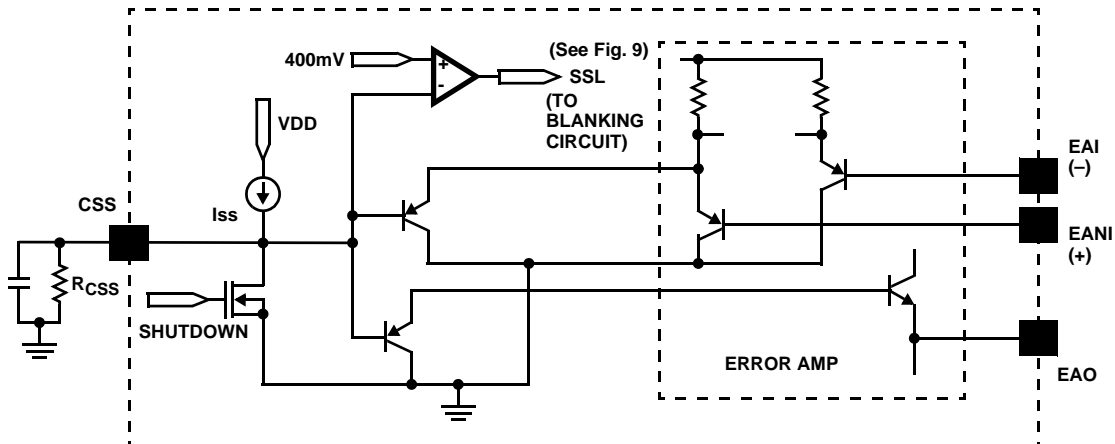

FIGURE 4. SIMPLIFIED CLAMP/SOFTSTART
- Both EANI and EAO are clamped by the voltage (V_{clamp}) set at the CSS pin, as shown in Figure 4. Note that the diodes in the functional block diagram represent the clamp function of the CSS in a simplified way.
- The clamping voltage determines the cycle-by-cycle peak current limiting of the power supply. It should be set above the EANI and EAO voltages and can be programmed by an external resistor as shown in Figure 4 using Equation 3.
incorporated. The current ramp is blanked out during the resonant delay period because no switching occurs in the lower FETs. The leading edge blanking function will not be activated until the soft start (CSS) reaches over 400mV, as illustrated in Figures 4 and 9. The leading edge blanking (LEB) function can be disabled by tying the R_LEB pin to VDD, i.e., LEB=1. Never leave the pin floating.